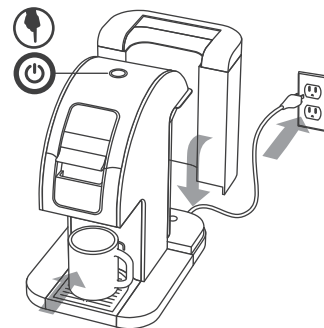

Fig. 3
5. Place a large mug or cup (12 oz minimum) on the Drip Tray. (Fig. 3)
6. Plug the brewer into a 3 prong-grounded outlet. (Fig. 3)
7. Press the Power Button on top of the brewer. The blue Power Light will illuminate. (Fig. 3)